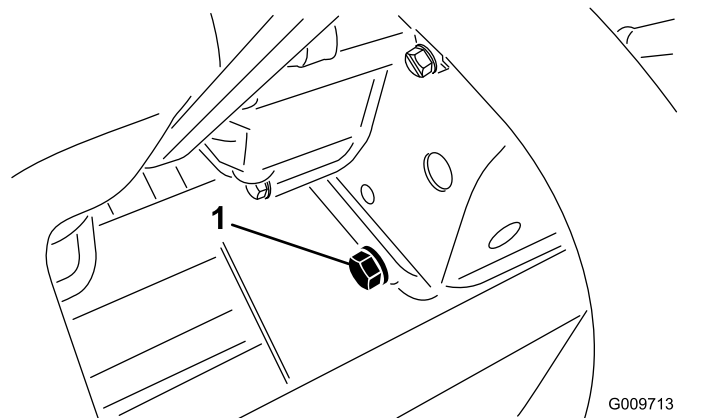

Figure 55
2. Remove the drain plug (Figure 55) and let the oil flow into a drain pan.